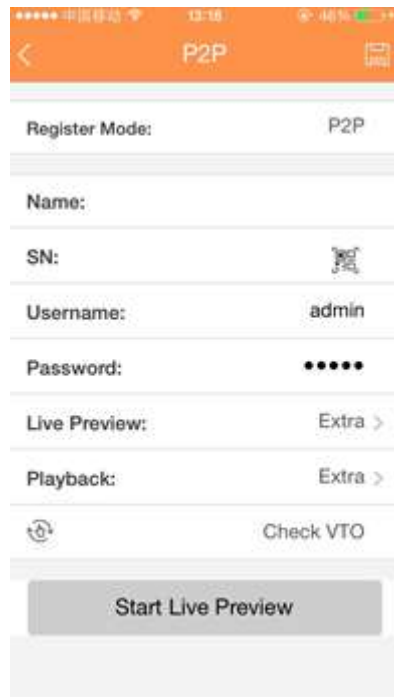

Figure 4-108
- Tap Device manager button, you can use several modes (P2P/DDNS/IP and etc) to add the device. Click  to save current setup. Tap Start Live preview to view all-channel video from the connected device. See Figure 4-108.